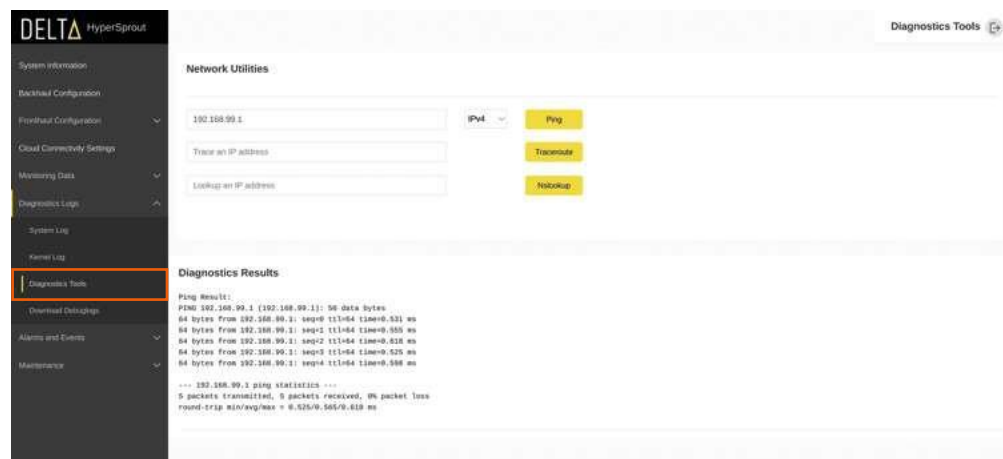

Figure 62: Diagnostic Logs
- Navigate to the *Diagnostics Logs* and then select *Diagnostics Tools* to verify the below network functionalities in the device. See *Figure 62*.